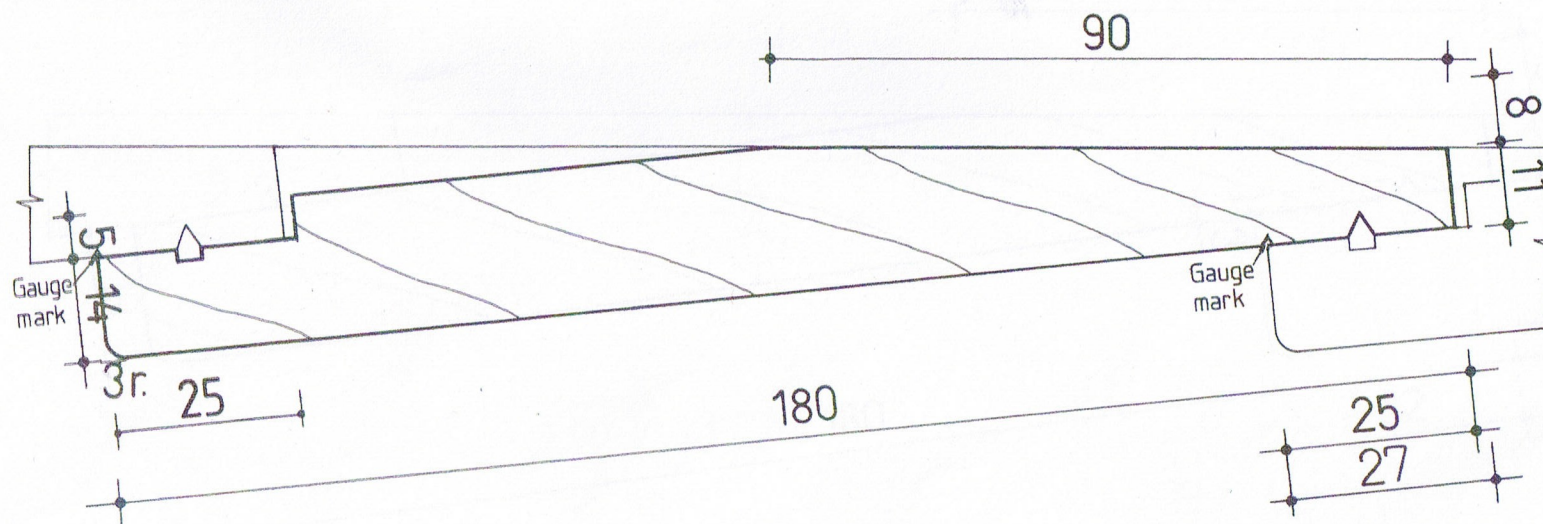

Fig. 2 200 mm x 25 mm REBATED BEVEL-BACK WEATHERBOARD
- Cut a piece of downpipe to measurement A and place it onto the dropper with an elbow, see fig 2.